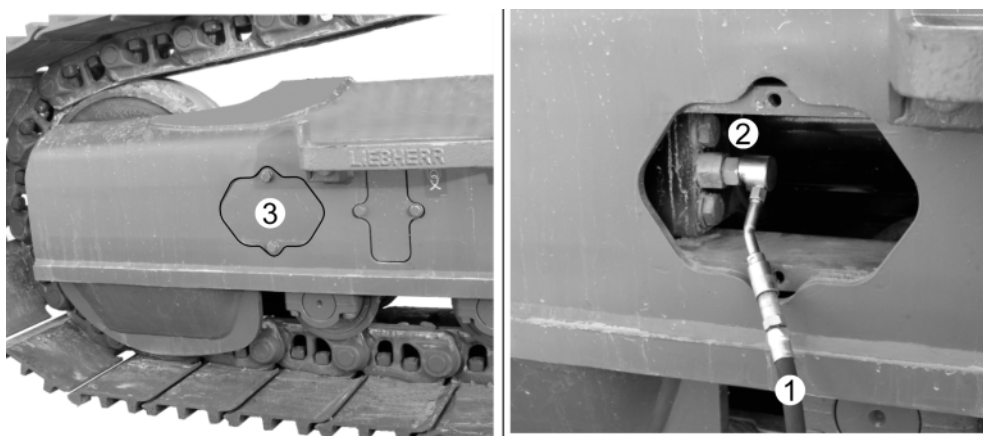

Fig. 5-52 Retensioning the crawler
- ▶ Carefully unscrew lubricating nipple **2** (siehe Fig. 5-52) by several thread pitches until the grease oozes out of the nipple's annular groove.